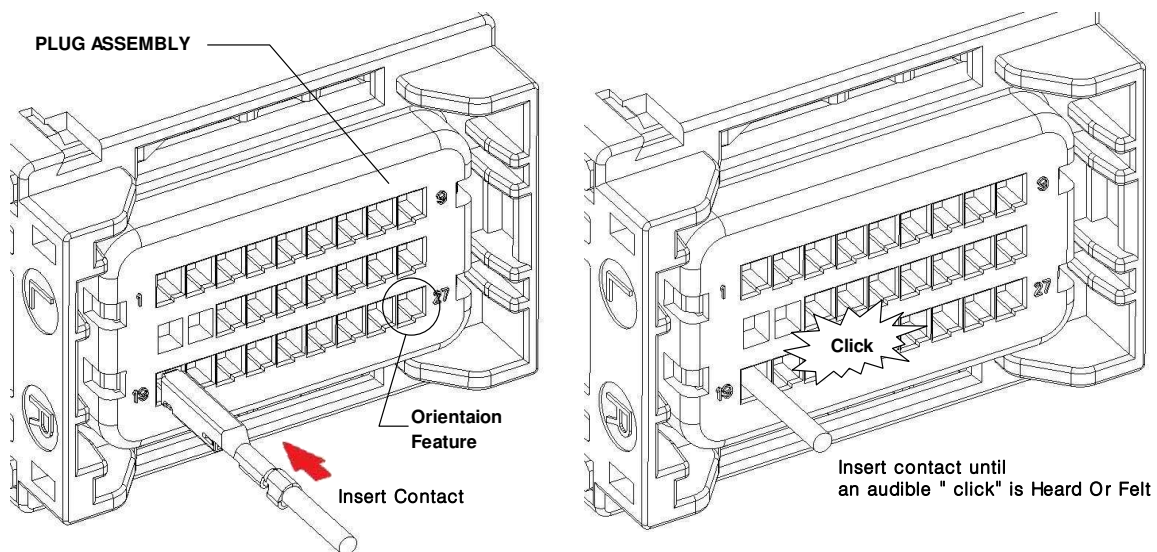

Fig. 9
(2) Insert TML into the each cavity with proper TML direction (See Fig. 9).